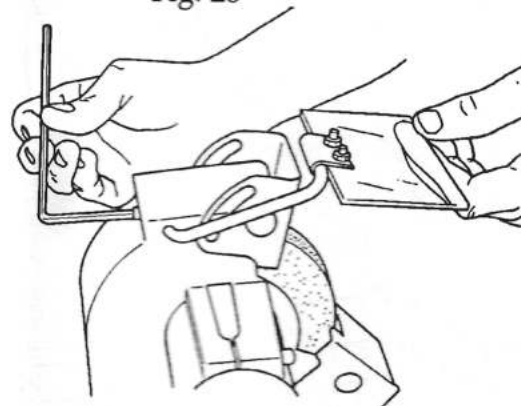

Fig. 27
26. Adjust the spark shield to be between your eyes and the contact point of metal and grinding wheel. Then use a 5/32" Allen wrench to tighten the setscrew (2) holding the shield bar (8). See Fig. 27.